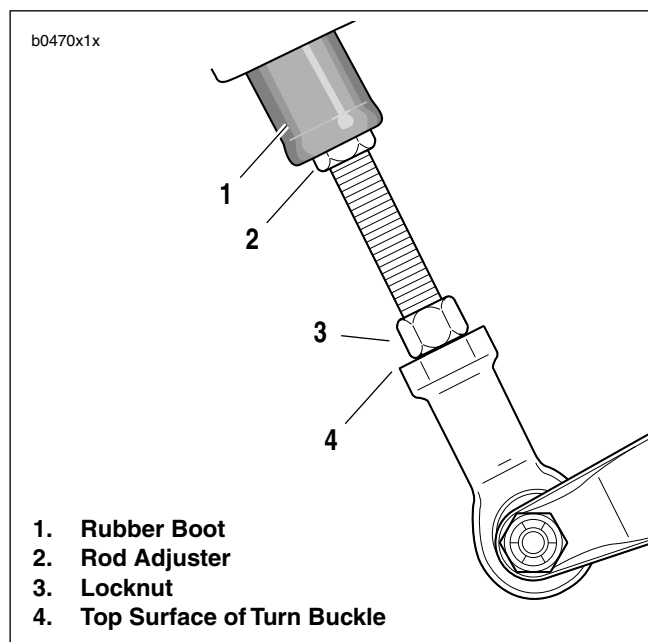
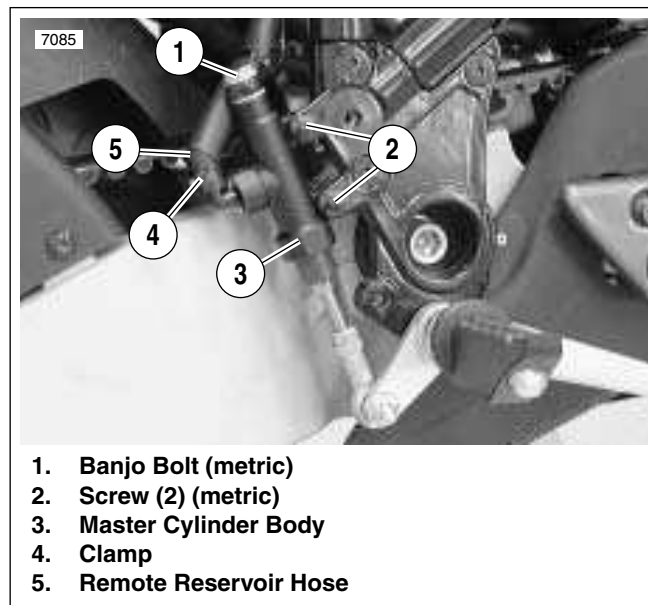

Figure 2-40. Brake Push Rod
Figure 2-41. Master Cylinder Mounting
5. See Figure 2-40. Disconnect push rod from brake pedal turn buckle (4).
- a. Spin locknut (3) away from top surface of turn buckle.
- b. Turn rod adjuster (2) to free rod from turn buckle (4).
6. See Figure 2-41. Remove screws (2) (metric) to detach master cylinder (3) from frame.
2. See Figure 2-41. Attach master cylinder (3) to frame. Apply **LOCTITE THREADLOCKER 243** (blue) to both screws (2) (metric). Tighten to 8-10 **ft-lbs** (11-14 Nm).
4. See Figure 2-40. Install push rod.